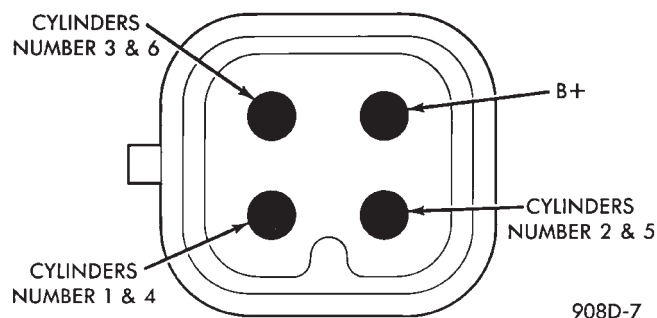

Fig. 18 Ignition Coil Terminal Identification
(1) Disconnect the electrical connector from the coil pack.
(2) Measure the primary resistance of each coil. At the coil, connect an ohmmeter between the B+ pin and the pin corresponding to the cylinders in question (Fig. 18). Resistance on the primary side of each coil should be 0.45 - 0.65 ohm at 21° to 27°C (70° to 80°F). A coil that has not been allowed to cool off, would result in inaccurate measurement results. Replace the coil if resistance is not within tolerance.